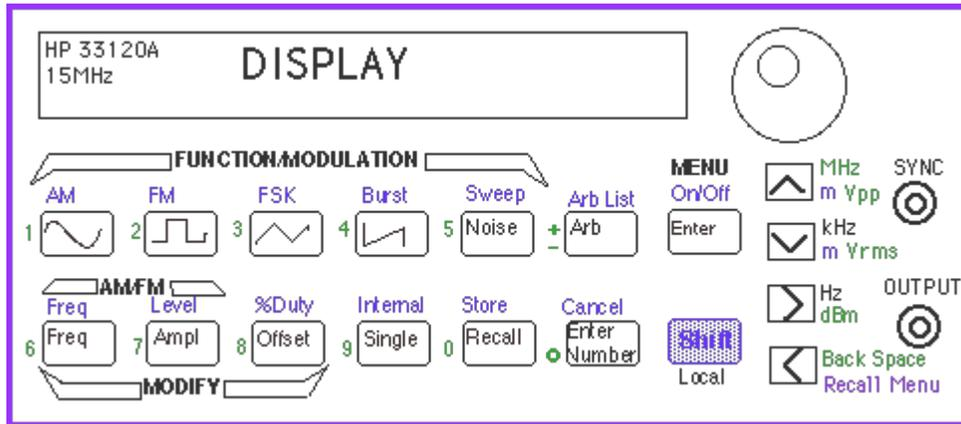

Figure 5: Front panel of the HP 33120A function generator/Waveform generator
The front panel of the HP 33120A is shown in Figure 5. There are two outputs on the right of front-panel. One is 'OUTPUT'-- the regular output terminal at which the specified waveform appears. The other output 'SYNC' is often used as a trigger signal. Both output terminals are of the "BNC" type, which can be connected to a coaxial cable (a shielded cable).
1. Press the key with the icon of the desired waveform (sine, pulse, triangle, or ramp) as shown in Figure 5. An annunciator will show the selected waveform
1. Press the 'FREQ' key (Figures 5 and 7).
3. Select AM mode by pressing the 'SHIFT' and 'AM' keys (see Figures 5 and 12). AM annunciator will be on.